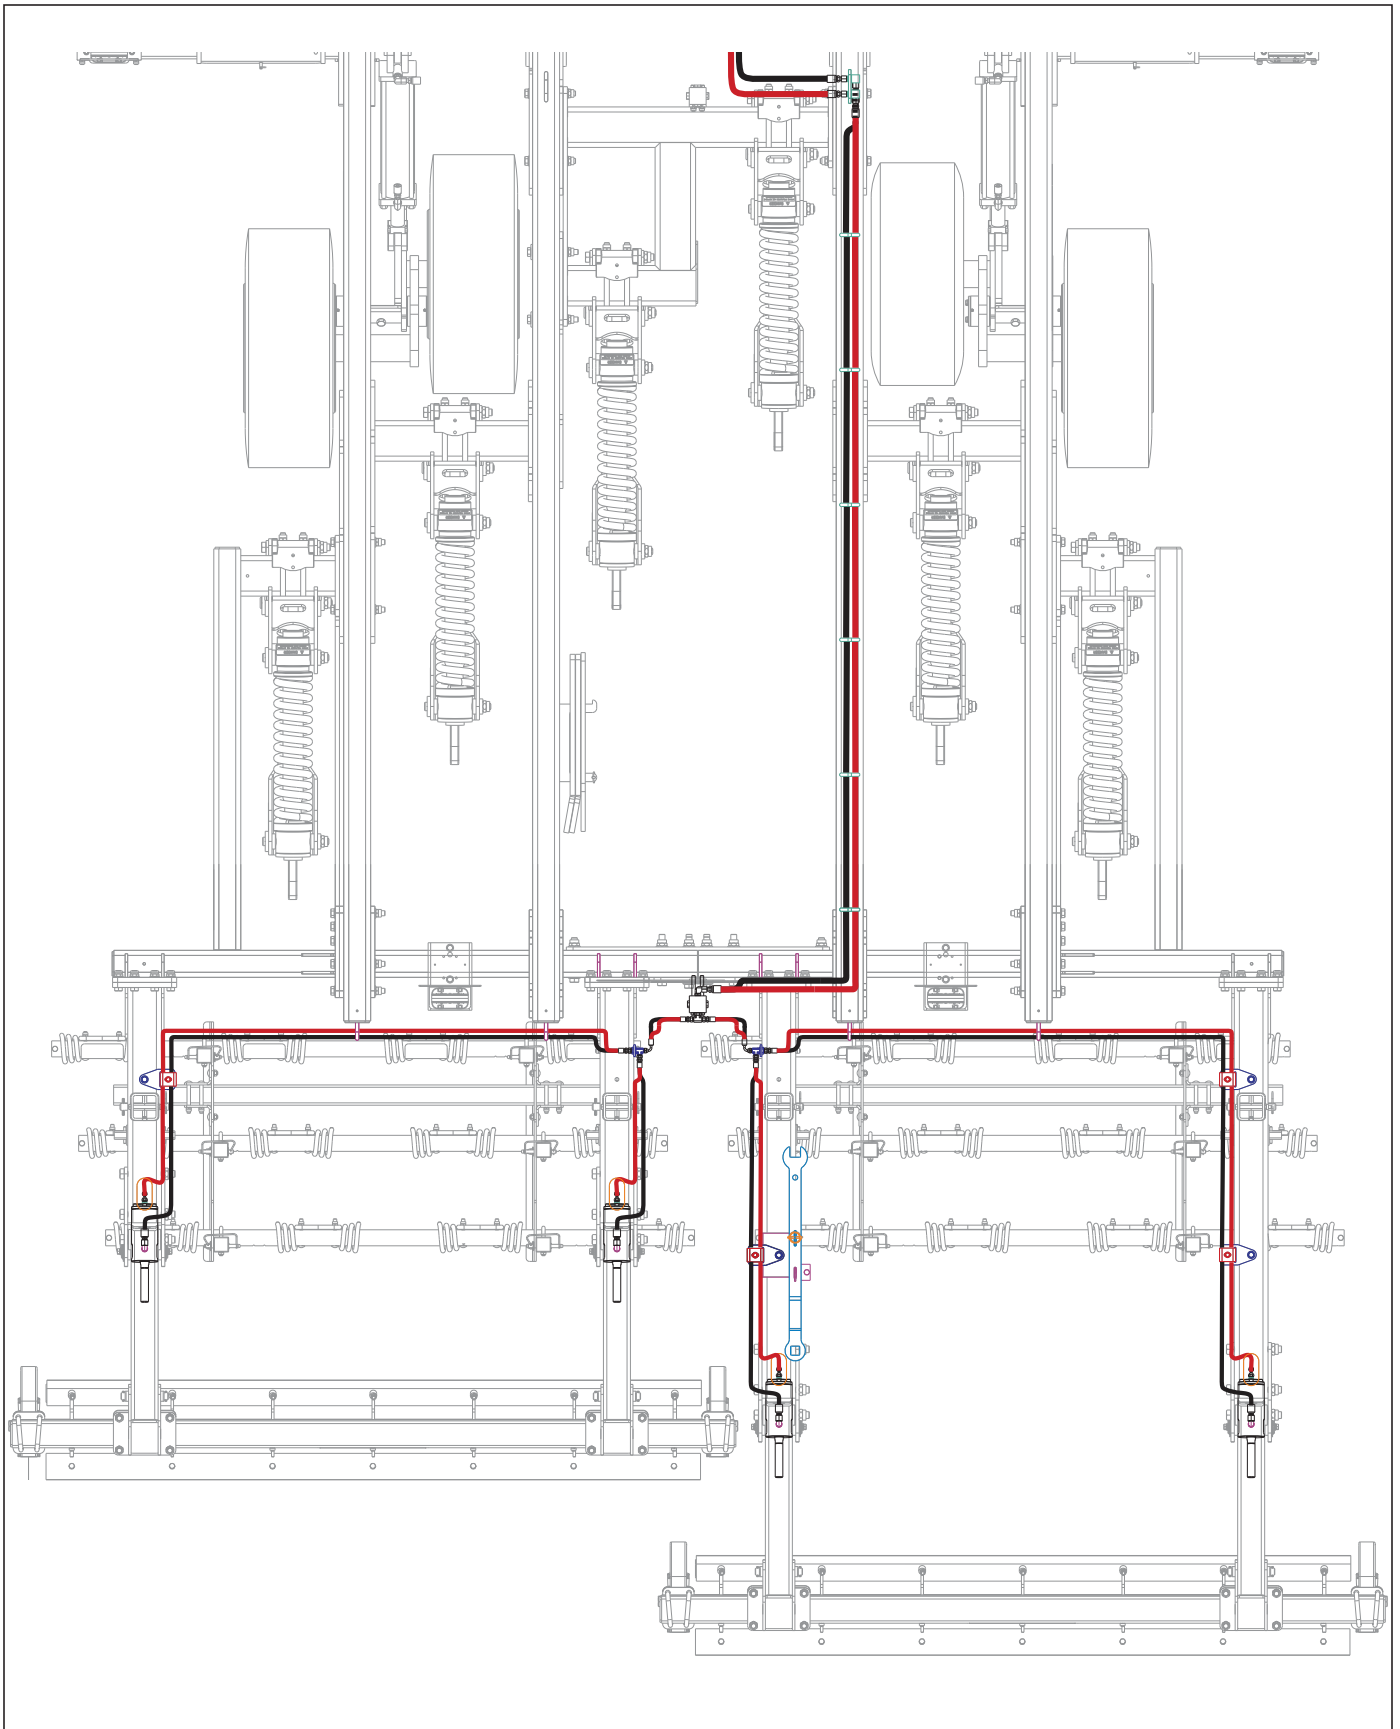

Figure 3-1: 3BCT/Chopper Hydraulic Layout 2411-06
1. Model 2411-06 attach LT and RT light bracket assemblies to center frame using 1/2 x 3-1/2 bolts, 1/2 washers and 1/2 lock nuts **See Figure 3-1.**